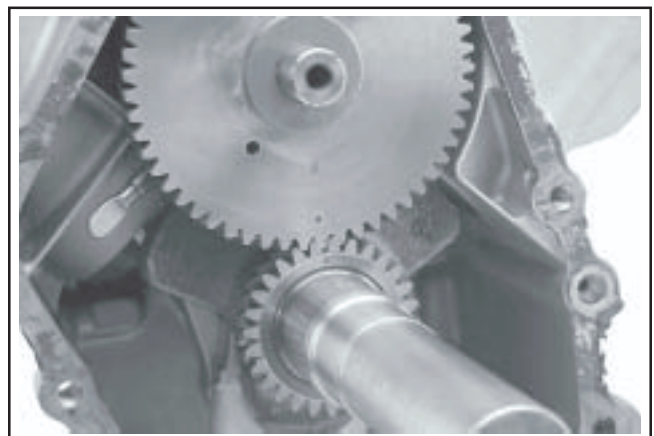

Figure 11-11. Timing Marks Aligned.
5. Slide the camshaft into the bearing surface of the crankcase, positioning the timing mark of the camshaft gear at the 6 o'clock position. Make sure that the camshaft gear and crankshaft gear mesh, and the timing marks are aligned. See Figure 11-11.